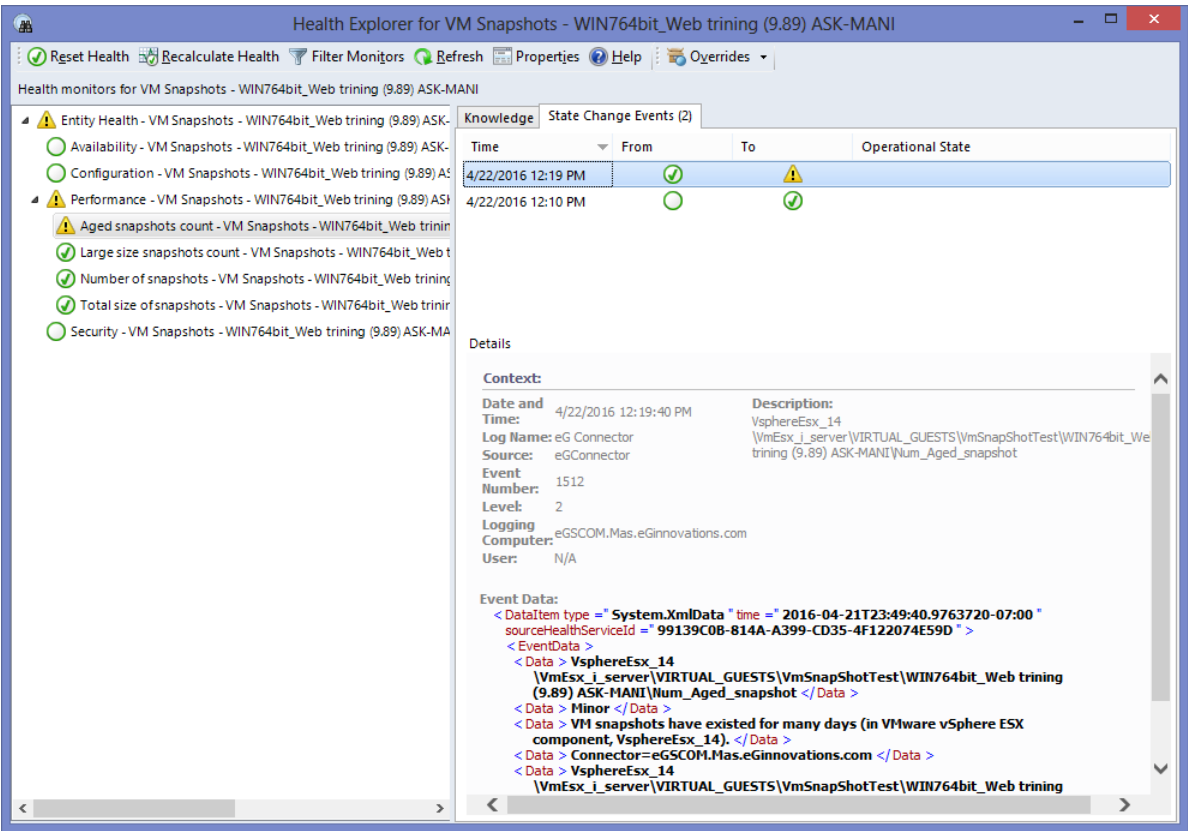

Figure 4.23: State Change Events tab
3. The right panel comes with two tabs. In the **Knowledge** tab, you can easily and instantly view the details of the chosen measure as described in the context-sensitive help page that corresponds to the chosen test. In the **State Change Events** tab on the other hand, you can view the transitions in the state of a test/measure chosen from the left panel. For instance, in Figure 4.23 below, you can view the state transitions for the **Aged snapshot counts** measure chosen from the left panel. This way, you can easily view the state history of a test/measure and effortlessly figure out what state a test/measure has been in at what time.